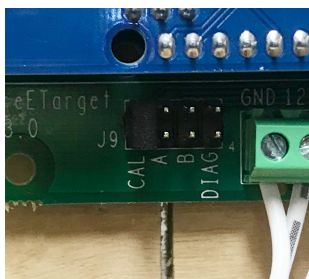

Figure 1: Calibration Jumper
2. Insert the CAL jumper as shown in Figure 1, or;